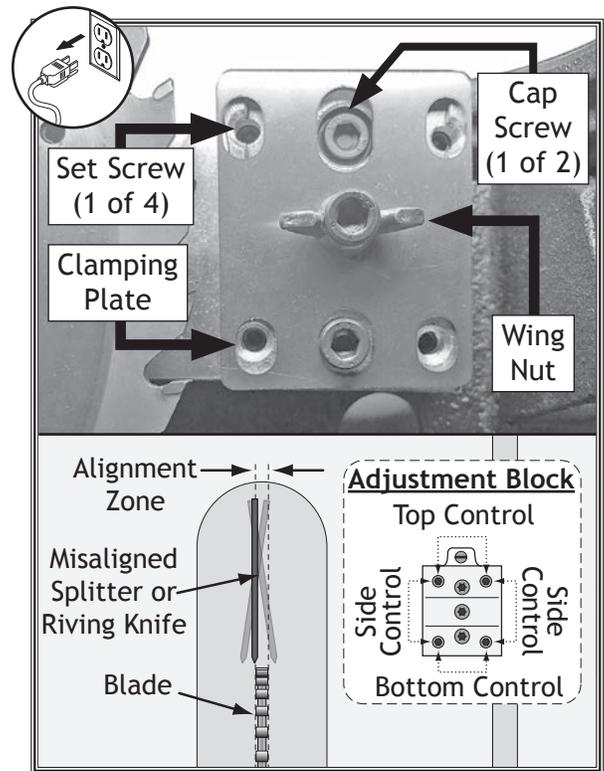

Figure 113. Set screws for adjusting spreader/riving knife position.
2. Loosen (2) cap screws and wing nut on mounting block, then adjust either top or bottom control set screws or side control set screws (see Figure 113) to move it the needed direction.